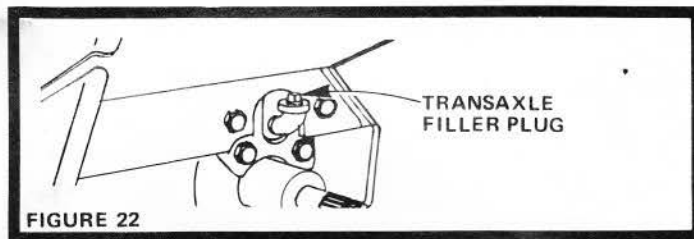

FIGURE 22
- Remove Filler Plug (Fig. 22) from Transaxle. Oil Level should be even with Filler Plug threads. Add S.A.E. 30 Motor Oil if necessary.